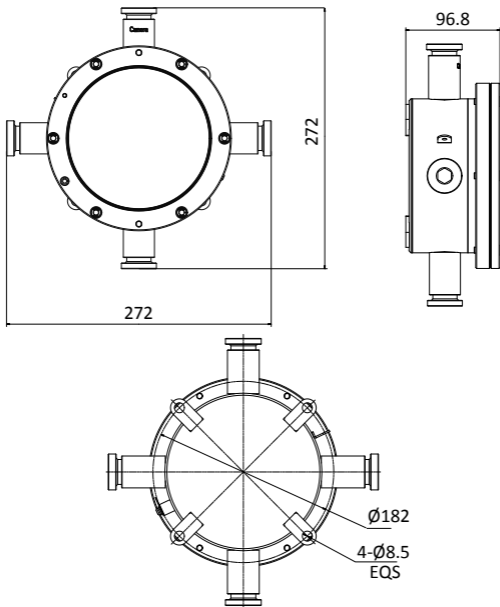

Figure 2-1 Explosion-Proof Terminal Box Overview
1. Drill four screw holes ($\varnothing 8$ mm) according to the dimension of the terminal box (see Figure 2-1), and insert four M8 \times 80 expansion bolts.